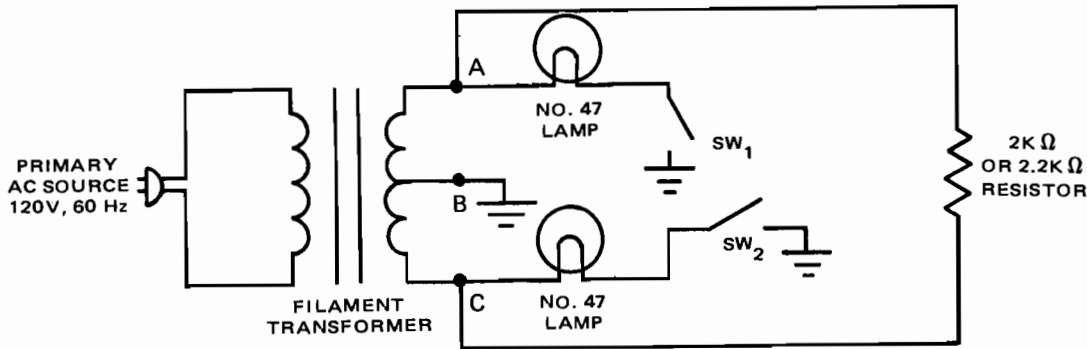

Fig. 9-5-2
4. Connect circuit shown in Fig. 9-5-2, using lamps and switches. Note that ground symbol is used to indicate commonly connected components.
5. Lamps in Fig. 9-5-2 are representative of separate ac circuits in a home. The resistor denotes a heating element in an electric range or clothes dryer. Typical voltages of 208/120 or 240/120 are supplied by transformers connected in this manner.